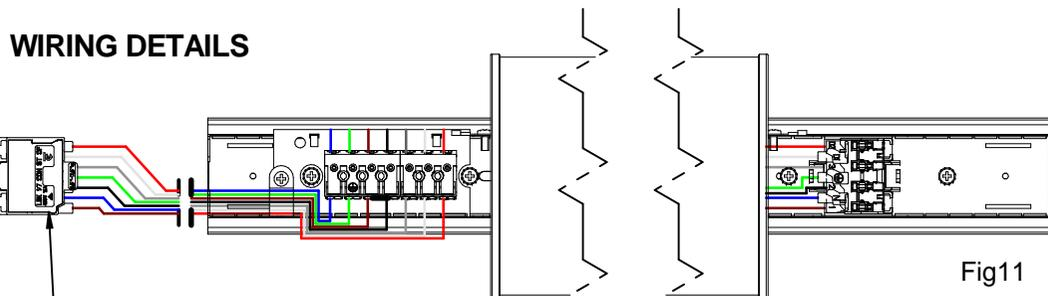

Fig11
- iv) - Remove 2 screws indicated below at each end. Fig 11
1 - Disconnect & remove the flying lead loom from the terminal blocks at the start of row power feed luminaire only & discard . NB Retain P Clip & fixing for later use. Cables are removed from terminal blocks by depressing levers on the top of the terminal blocks. Fig 11